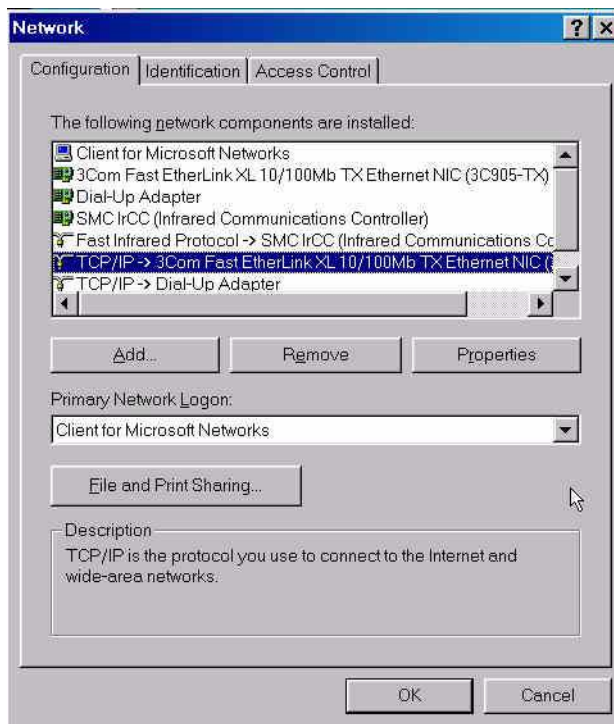

Figure 8 Network Window
8. Click **TCP/IP** on the **NETWORK** window (Figure 8). If you have more than one TCP/IP entry, choose the one associated with the Ethernet card connected to the DOXport 111.